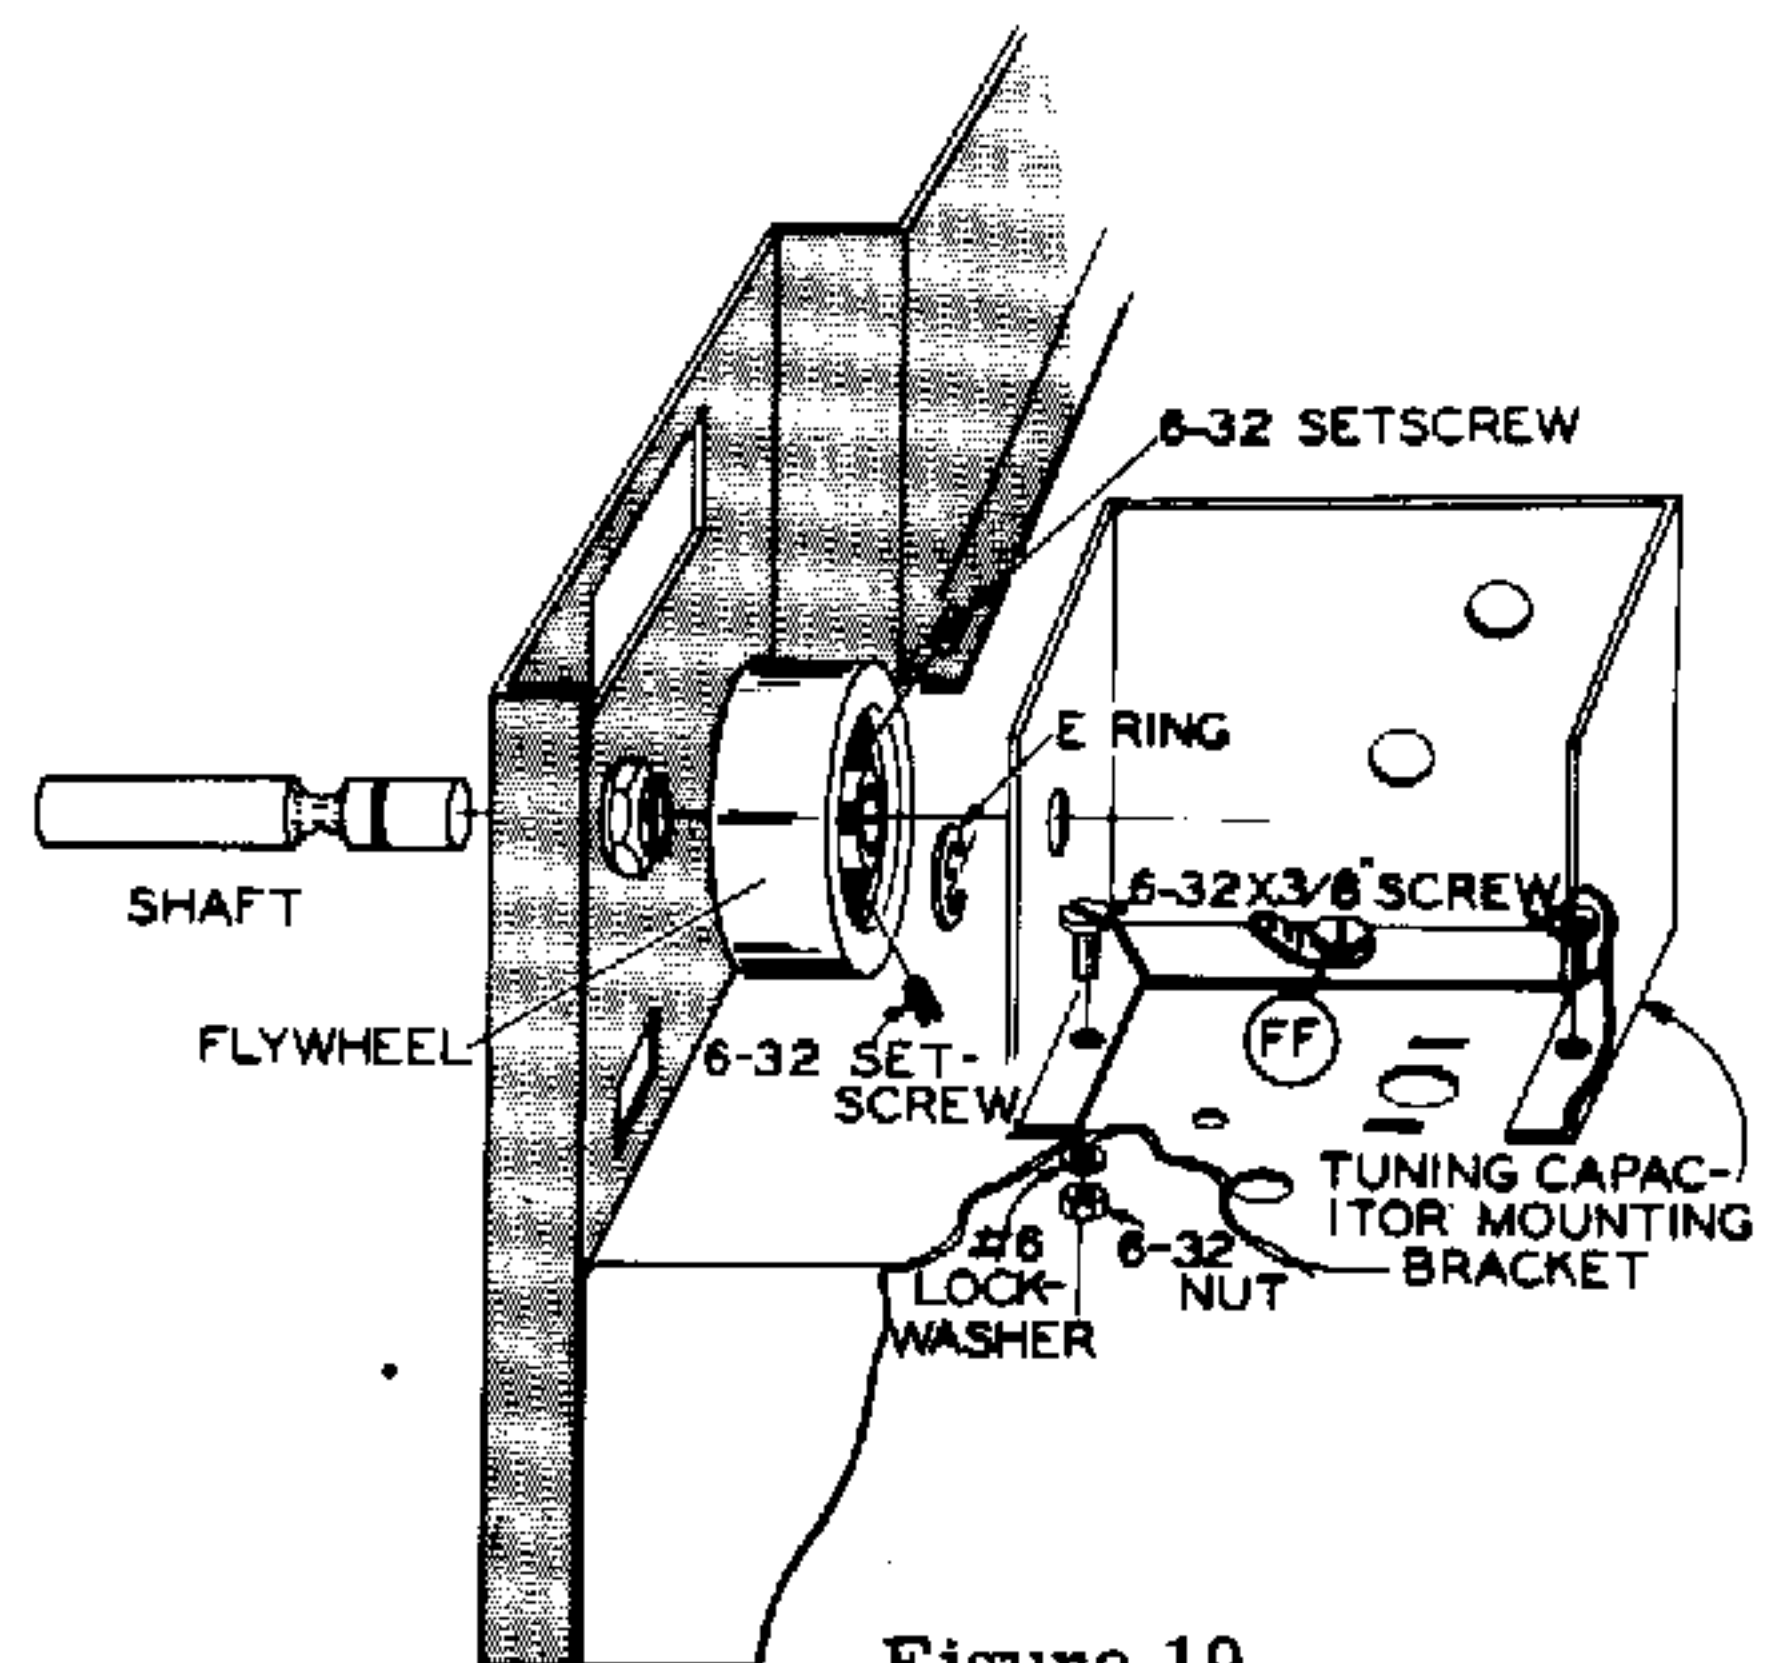

Figure 19
( ) Mount the MAIN TUNING capacitor assembly on the chassis, using three 6-32 x 3/8" screws, one #6 solder lug, three #6 lock-washers, and three 6-32 nuts as shown in Figure 19. The solder lug goes under the mounting screw at FF. Insert the wire from lug 1 through the ANT hole and insert the wire from lug 2 through the OSC hole in the circuit board to be soldered later. See Pictorial 2.
- (✓) Referring to Figure 19, insert the two 6-32 setscrews in the flywheel. Insert the shaft through the brass bushing, through the flywheel hole, and into the hole on the TUNING capacitor mounting bracket. Insert the E ring in the slot on the shaft. The E ring should be on the flywheel side of the TUNING capacitor mounting bracket.